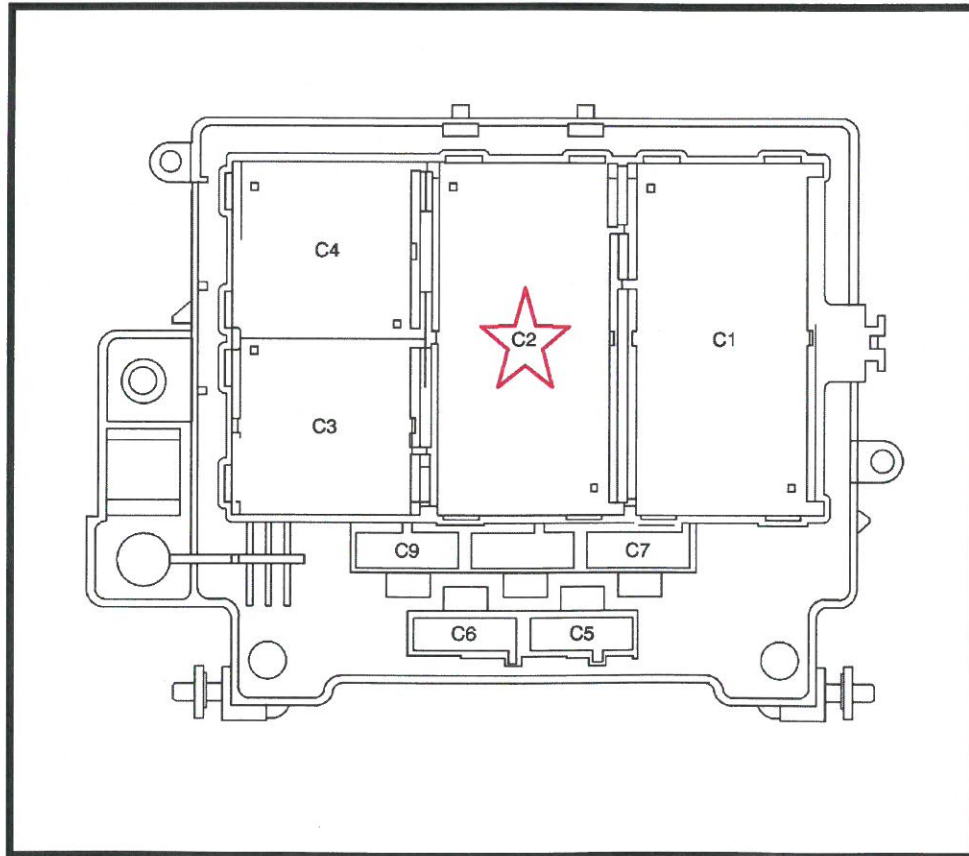

Figure 1 C2 in underhood fuse block
- C. Locate C2 *(Figure 1)* and loosen screw allowing it to be unplugged.